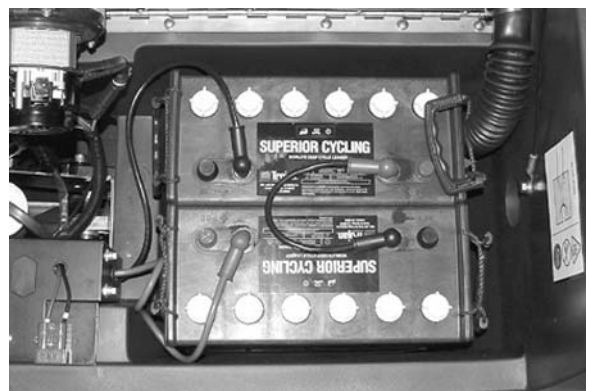

FIG. 2
3. Carefully install batteries into battery tray at bottom of compartment and arrange battery posts as shown (Figure 2).
5. Connect cables to battery posts as shown (Figure 2), RED TO POSITIVE & BLACK TO NEGATIVE. Use the rubber boot post protectors supplied.